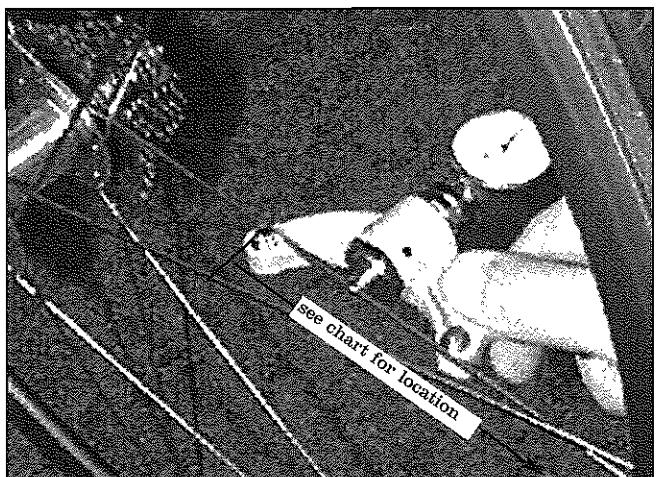

Fig. 30
- With the handle of a calibrated Rolf/Hozan gauge pointing toward the rim, place the gauge upper pin on this point (Fig. 30) and push the gauge toward the spoke until the lower pin just touches the spoke. Do not press the lower pin into the spoke, as this will alter the gauge reading.